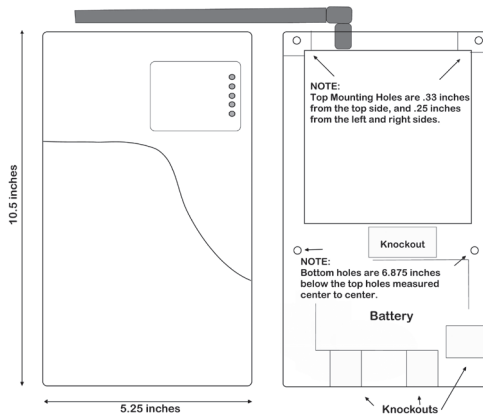

FIGURE 2:
Position the bottom of the 4550 enclosure where it will be installed. Use four (4) #6 screws and mount the unit using the four holes in the enclosure's plastic bottom. The 4550 unit's dimensions are shown in Figure 2.